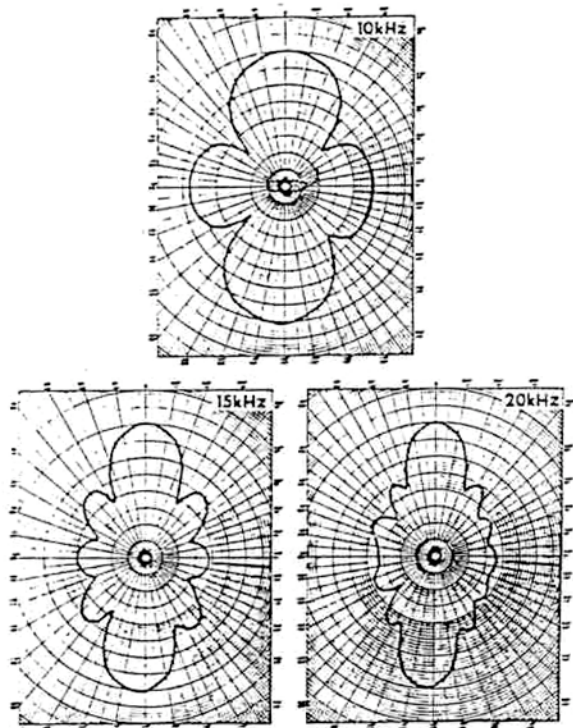

Fig. 45. Typical directivity patterns in the vertical (XZ) plane, Type F36 Transducer. Scale: center to top of grid, each pattern, equals 50 dB.
Directivity. The transducer is omnidirectional within ± 0.5 dB in the plane (XY) normal to its longitudinal axis. The vertical (XZ plane) directivity is equivalent to that of a 20.3-cm line. Typical vertical directivity patterns are shown in Fig. 45.